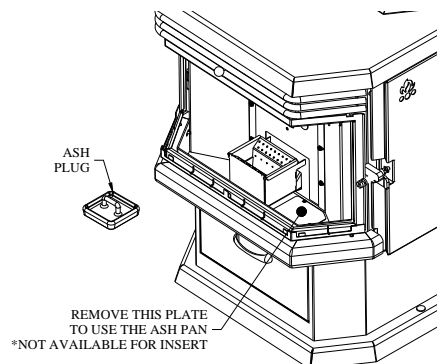

Figure 45
- Periodically remove and empty the ash drawer (see Figure 45 & 46) by opening the front lid of the pedestal below the ash lip. Dispose of ashes properly. (See "ASH REMOVAL" above)